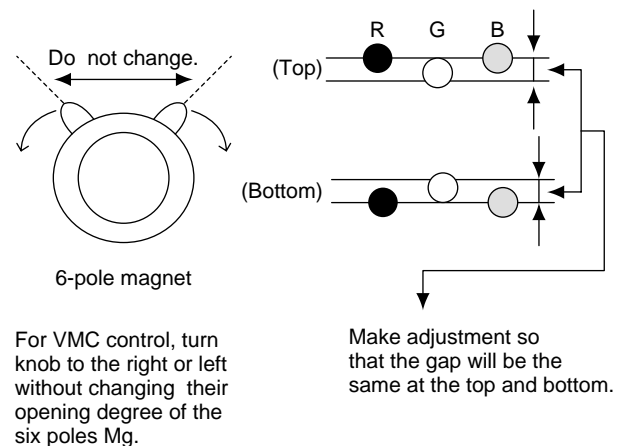

Fig. 2-25
5. For VMC, use the six poles Mg to adjust the R and B dots so that they will be symmetrical vertically with respect to the G dot. (Fig. 2-25)